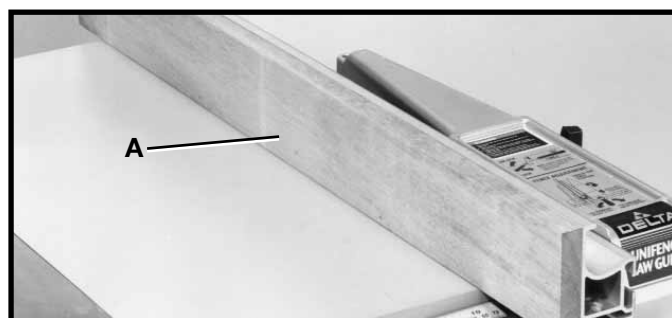

Fig. 58
It is necessary when performing special operations such as when using the moulding cutterhead to add wood facing (A) Fig. 58, to one or both sides of the rip fence. Depending on the fence, the wood facing is attached to the fence either with wood screws through holes drilled in the fence (as shown in Fig. 58) or with two clamps. For most work, 3/4" stock is suitable, although an occasional job may require one-inch facing.